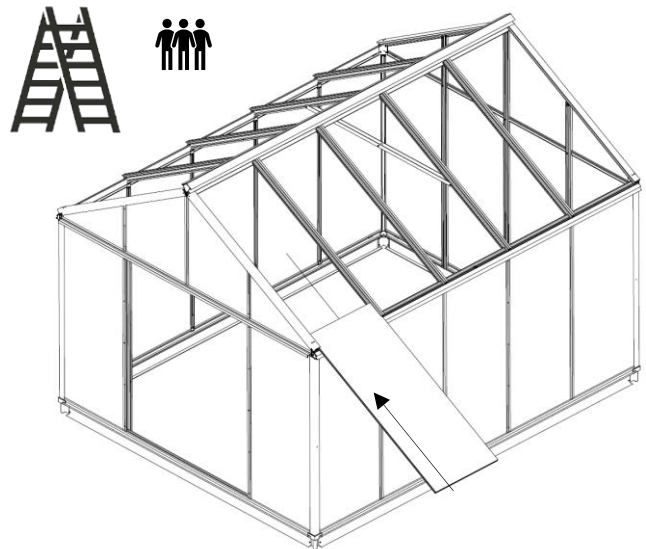
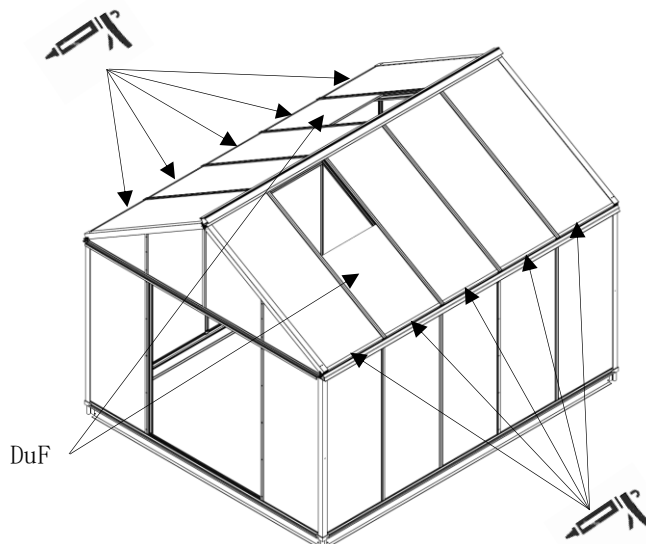

fig. 55
fig. 58
- the ISO roof glass panes (item G/S/D) are inserted one after the other into the groove of the roof glazing-bars. (fig. 55)
whereby the short ISO roof glazing (item DuF) is installed in the second position. (page 32 fig. 58)
- the work steps from **fig. 55 to 57** are repeated for the remaining glass panes and end stop bars. (*fig. 58*)